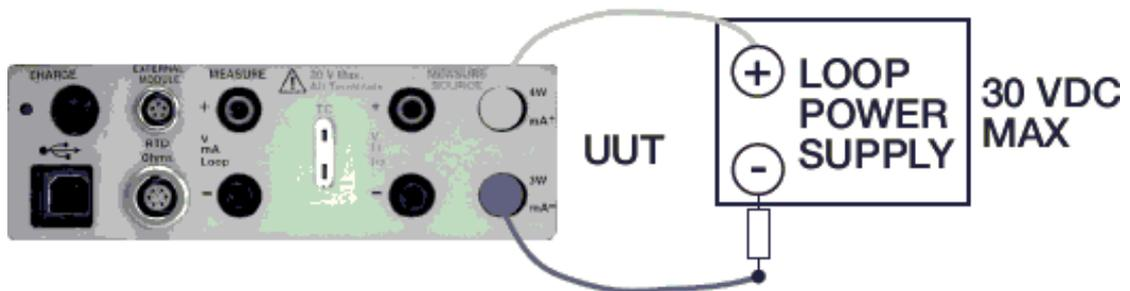

Figure 11: Connections for Simulating a Transmitter
- Connect the 24V loop (shown in Figure 11).